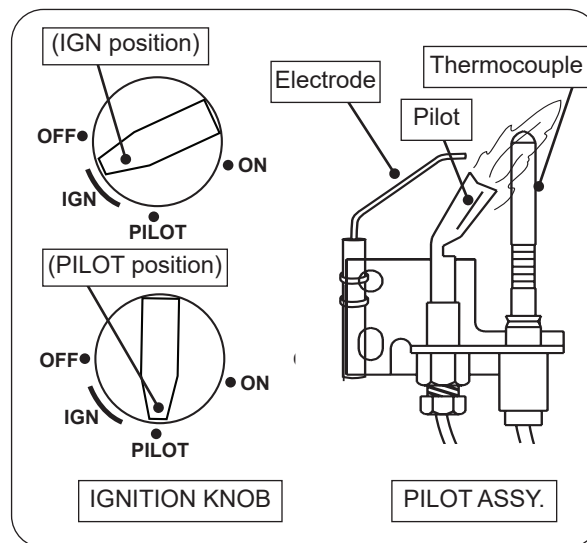

Fig. 32-1 Pilot lighting
3. Locate the pilot assembly on the side or rear of the burner pan (see Fig. 32-1).
5. While still holding the knob in, turn the knob counterclockwise to **PILOT** until you hear a click (piezo igniter will activate and light pilot). Continue to hold the knob in for about one (1) minute after the pilot is lit. Release the knob and it will pop back out. The pilot will remain lit. See Fig. 32-1. If it goes out, repeat steps 2-5.